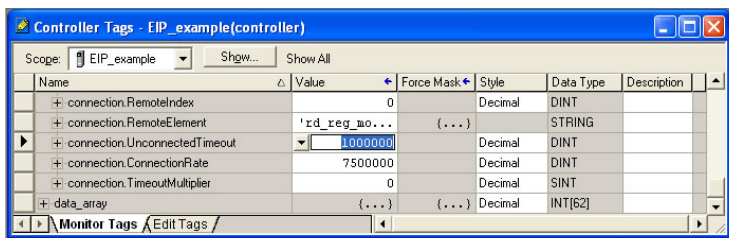

Figure 102: Reduce the UnconnectedTimeout Value
- e) Select the "Monitor Tags" tab. Expand the "connection" tag by clicking on the "+" sign next to the tag name. Scroll down to the connection.UnconnectedTimeout field and change its value from the default 30000000 (30s in 1uS increments) to 1000000 (1s). This value determines how long to wait before timing out and retransmitting a connection request if a connection failure occurs. Refer to Figure 102.